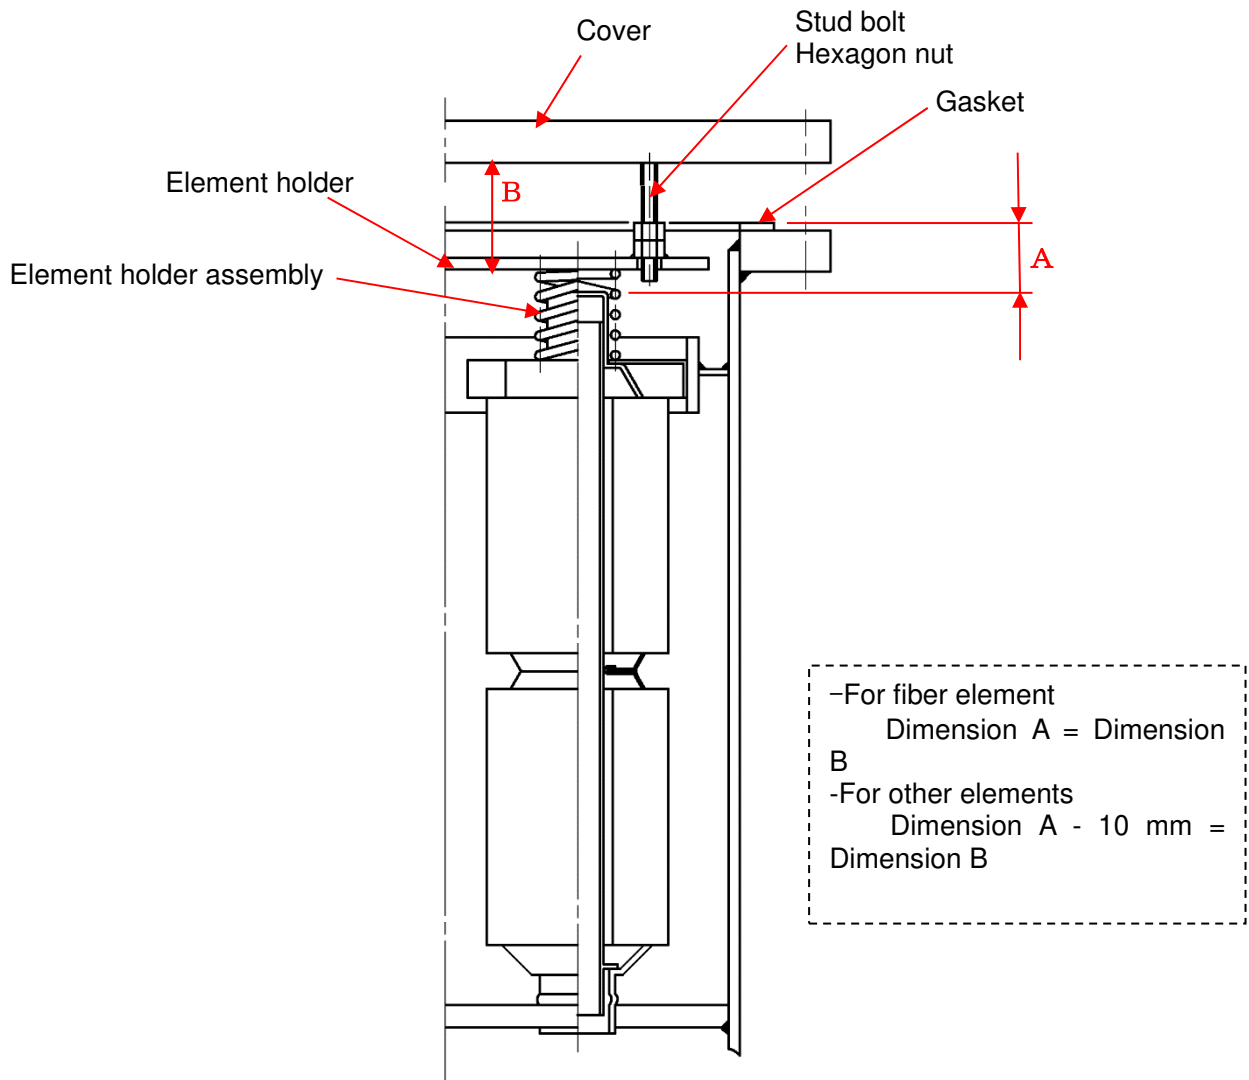

Fig7 Adjusting the element holder stud bolt position
1) Adjust the dimension as shown in Fig. 7 for the element holder stud bolt and tighten it with hexagon